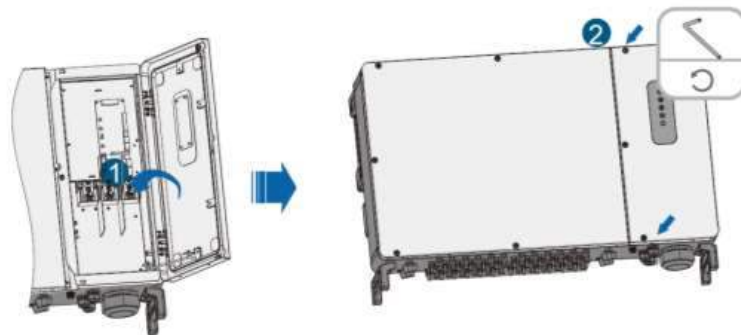

Fig. 4-52 Limit lever
- 7) Release the limit lever (Fig. 4-52).